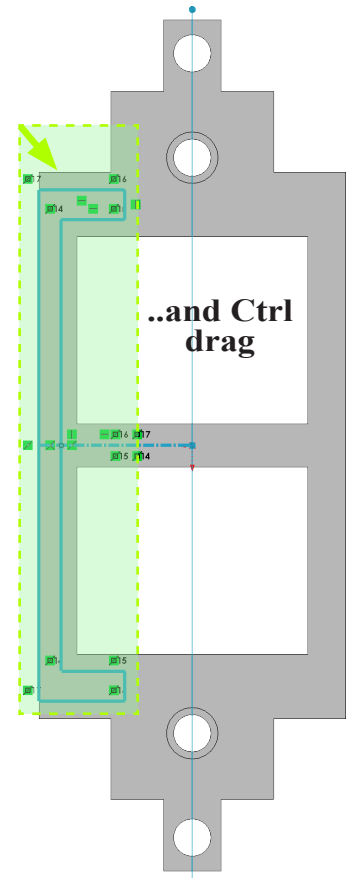

Fig. 39
Step 11. **Ctrl drag** a selection to **select all geometry**, **Fig. 39**.